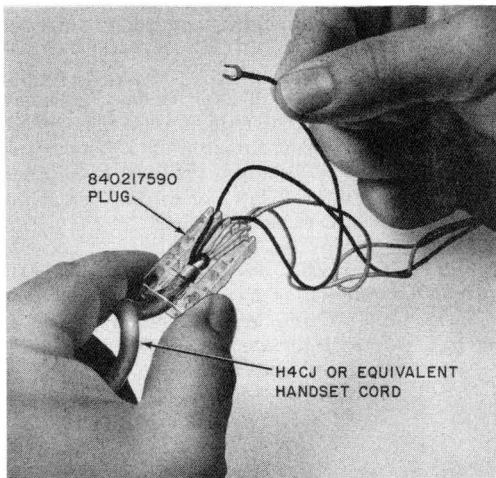

Fig. 3—Installing Spade-Tipped Handset Cord Leads
3.08 *Installing Spade-Tipped Handset Cords in Early Production Sets Equipped with G12A Handset:* To install spade-tipped handset cord (H4CJ or equivalent) remove J Hook Stayband from the cord. Cut back and remove cord sheath to stayband marks. Thread spade-tipped conductors through plug (Fig. 3) (spade tips must be bent to clear cord entrance). Pull cord until about 1/4-inch of cord sheath is in the central